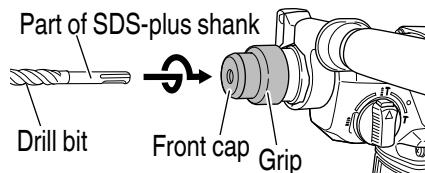
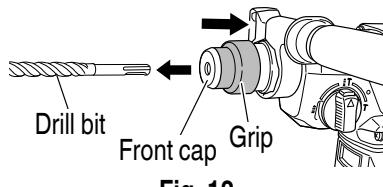

Fig. 11
Fig. 12
- (1) Turn the grip of the side handle to loosen it and push it in until it comes in contact with the gear cover.
- (2) Adjust the side handle to the angle that allows the easiest use, then turn the side handle's grip firmly to lock it place.
3. Mounting the drill bit (Fig. 11, Fig. 12)
- (1) Clean the shank portion of the drill bit.
- (2) Insert the drill bit in a twisting manner into the tool holder until it latches itself. (Fig. 11)
- (3) Check the latching by pulling on the drill bit.
- (4) To remove the drill bit, fully pull the grip in the direction of the arrow and pull out the drill bit. (Fig. 12)